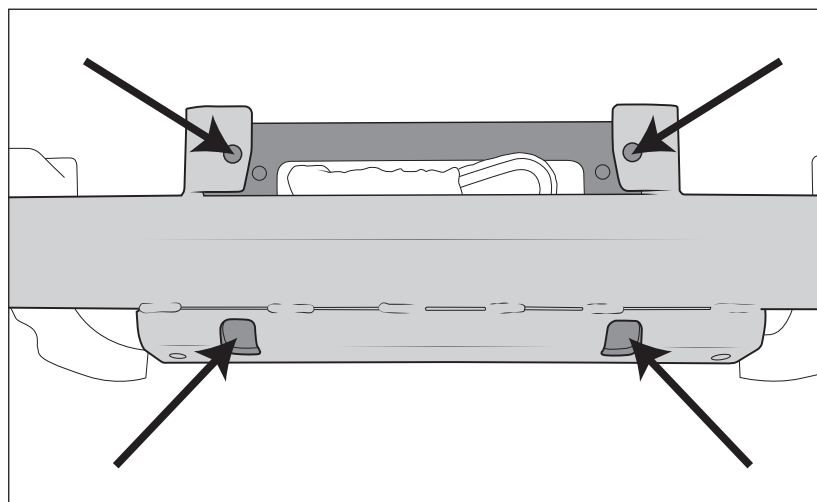

Figure 16
10. Install winch body (fig. 16).